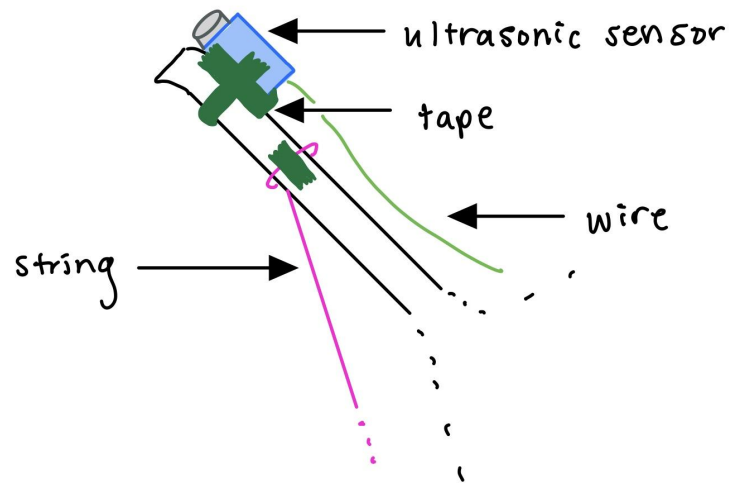

Figure 3. Spout of watering pot with ultrasonic distance sensor and string taped on
10. Take one of the ultrasonic distance sensors, and use tape to secure it to the spout of the watering pot, with the sensor facing in the same direction that water would flow out of the watering pot. See Figure 3 in Appendix C for drawing.
14. Cut at least 18" of string. Tie one end of the string to one of the screws that you glued to the horn. Tie the other end of the string to the spout of the watering pot, right behind where the sensor was mounted. Tape the string to the spout. See Figure 3 in Appendix C for drawing.